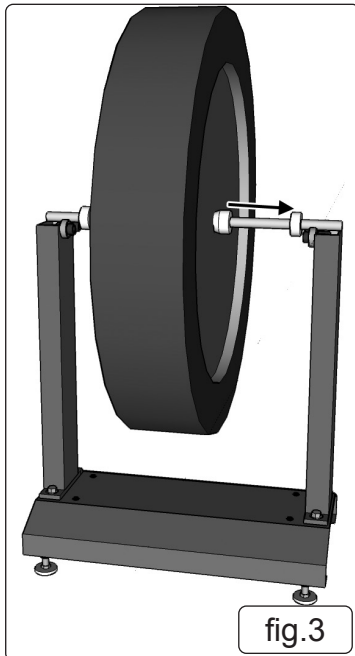

fig.3
- 5.2. Slide the balancer spindle through the motorcycle wheel hollow axle and slide a cone onto either end of the spindle so that the tapered ends enter the wheel bearings. When the wheel is central on the spindle, secure the cones by tightening the grub screw in each using a 3mm hex key. Check that the wheel is central on the spindle and firmly secured by the cones for best results. See fig.3